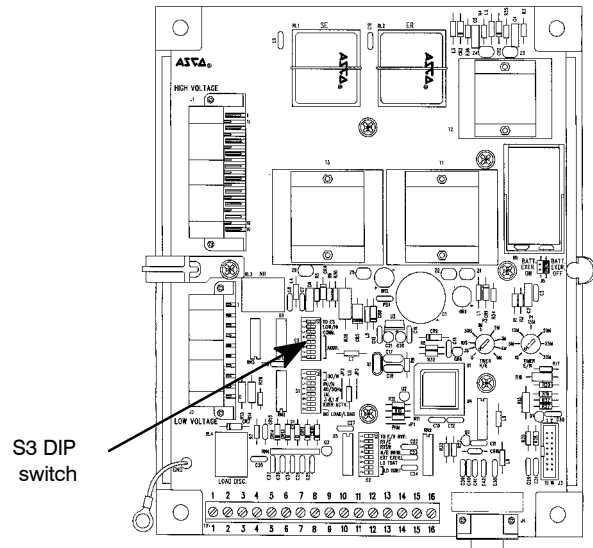

Figure 6. Location of S3 DIP switch in Group 1 Controller (Series 300 ATSS).
2. Locate DIP switch S3 (left center) and set a unique address for this ATS. Use a ball-point pen (or similar pointed tool) to slide the switch actuators left or right so that they match the illustration next to the setting (left=off, right=on). Recheck the setting. See Figures 6 and 7, and refer to Table C on the next page.